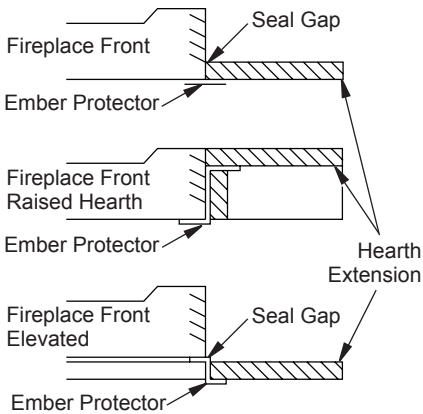

Figure 3 - Hearth Extension
Thermal conductivity "K" of materials can be obtained from the manufacturer or supplier of the noncombustible material. If the hearth extension is to be covered, use noncombustible material such as tile, slate, brick, concrete, metal, glass, marble, stone, etc. Provide a means to prevent the hearth extension from shifting and seal gap between the fireplace frame and hearth extension with a noncombustible material (see Figure 3).
**⚠ WARNING: Hearth extension is to be installed only as shown in Figure 3.**